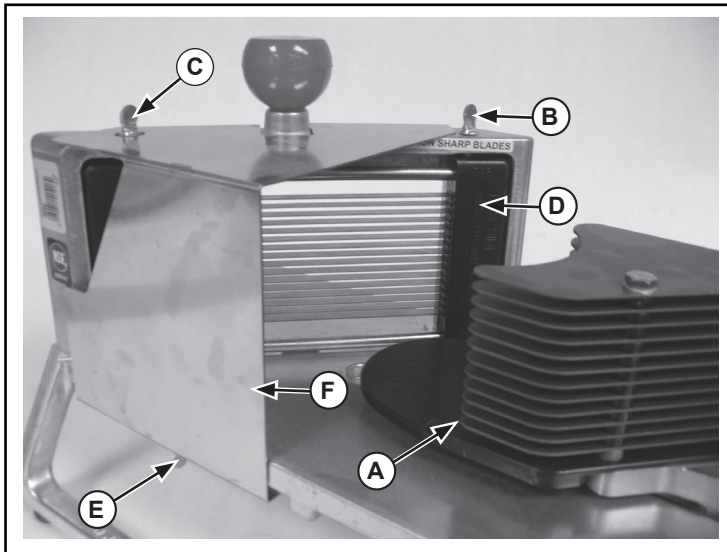
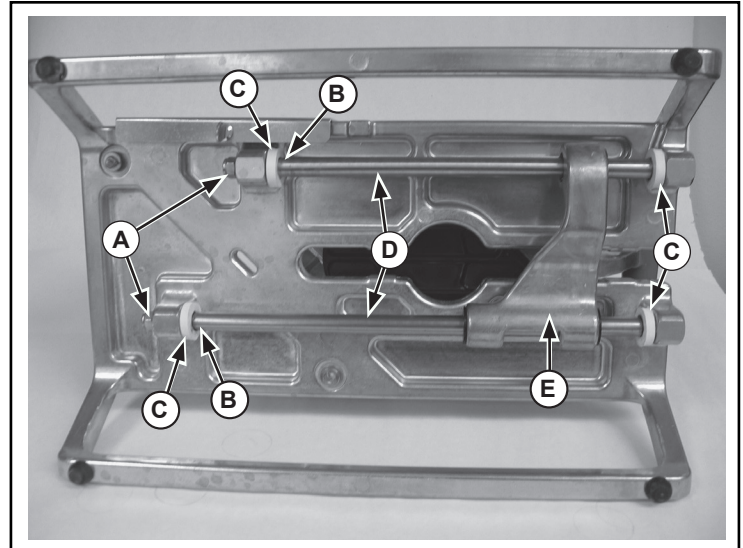
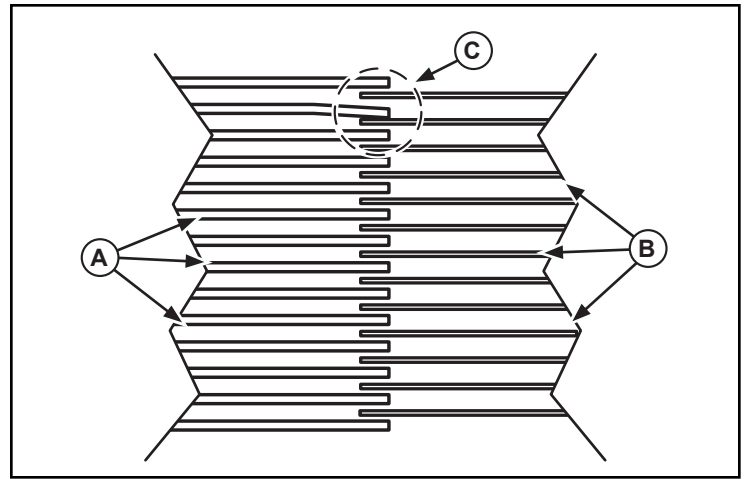

Figure 1. Blade Assembly and Guard Removal and Installation
Figure 2. Guide Rod, Nylock Nut and Washer Removal and Installation
Figure 5. Pusher Head Fingers and Blade Assembly
1. Slide the pusher head assembly (A) out and away from the blade assembly (D). See Figure 1.
4. Hold the guide rods (D) using a wrench on the flats (B) and remove the nylock nuts (A). See Figure 2.
5. Note the position and location of the washers (C) and orientation of the pusher head assembly (E). Slowly remove the guide rods (D) and washers (C).
6. Retain the nylock nuts (A) for reuse. Retain the washers (C) if they are going to be reused or discard if they are going to be replaced.
- Install the guide rods (D) by sliding through bumpers (C) and pusher head (E) as shown in figure 2.
- Secure the guide rods (D) using the nylock nuts (A) removed earlier.
- Install the blade assembly (D) securing with thumb screws (B and C). See Figure 1.
- Reinstall the guard (F) securing with thumb screws (C and E). Your InstaSlice™ is now ready to use. See Figure 1.
- Note which pusher finger(s) (A) are making contact (C) with the blades (B). See Figure 5. See Figure 1.